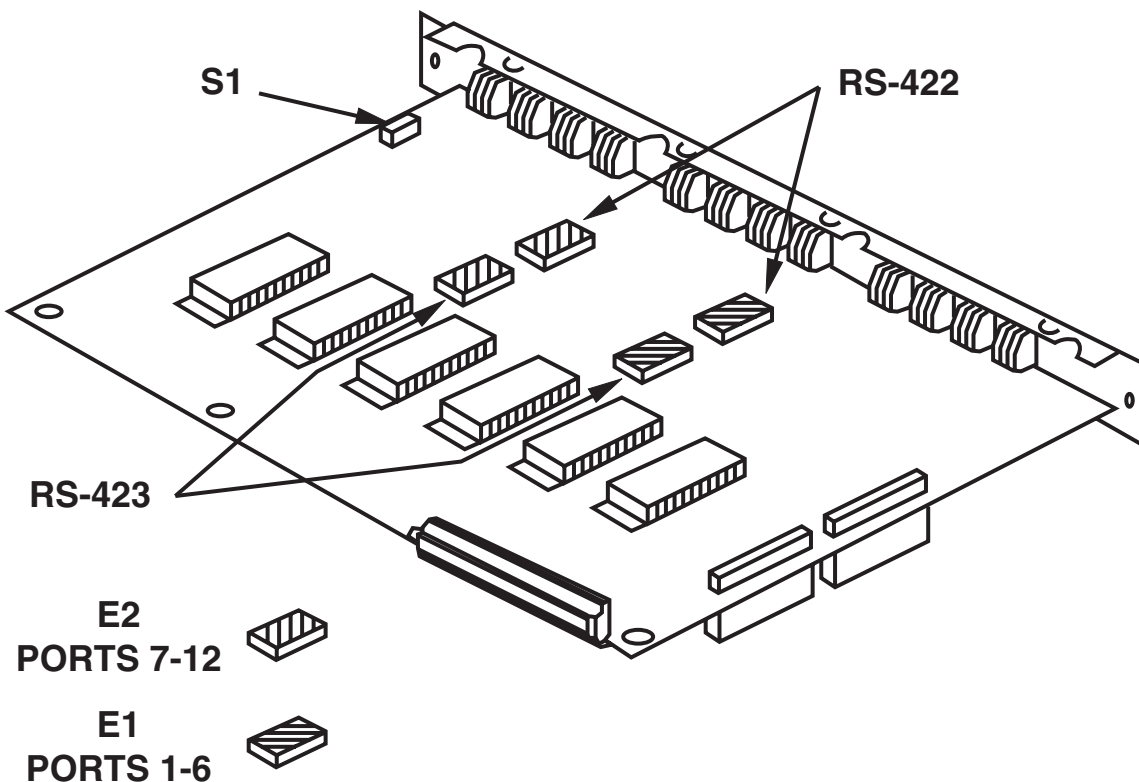

Figure 5-12. The 12-channel Channel Expansion Module with Line Drivers.
3. If the module is a 12-Channel Line Driver Expansion Module, then verify that the jumper on header E1 is placed in the proper position for RS-422 or RS-423 operation for ports 1 to 6, and that the jumper on header E2 is in the proper position for ports 7 to 12 (**Figure 5-12**).